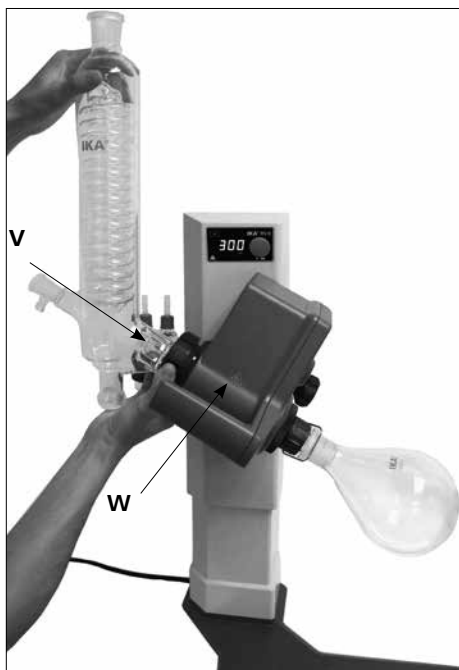

Fig.17
- Place the condenser on the rotary drive (**W**) and tighten the cap nut by hand. (Fig.17)